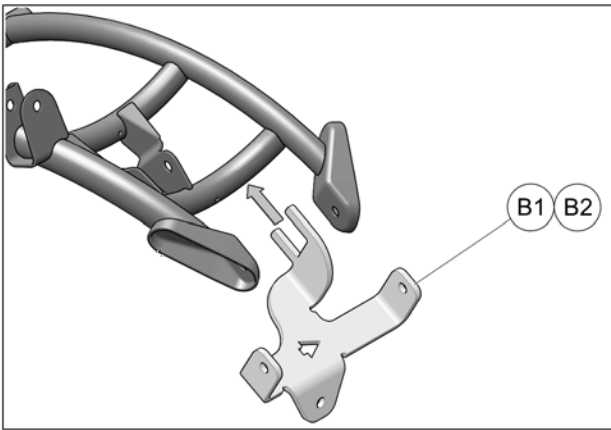

Fig. 5
5. Position anchor bracket (B1-B2) under lower suspension arm. Slip C-shaped end of bracket on suspension arm cross-member. See Fig. 5